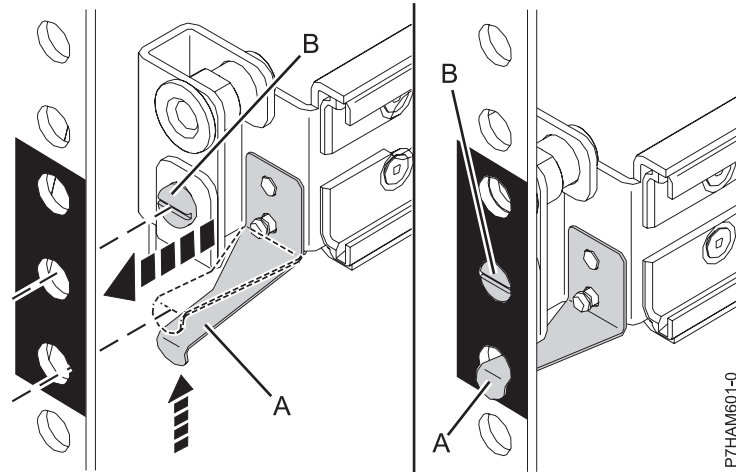

Figure 9. Mounting the rail to the front of the rack
- The tension clip (A) points toward the front of the rack and aligns with the bottom EIA hole that you marked previously, as shown in Figure 9 on page 11.
- c. Bend the tension clip (A) up and insert it into the bottom EIA hole that you marked previously, as shown in Figure 9. Ensure that the lip of the clip is brought fully through the hole and clasped against the bottom of the hole. Seat the alignment screw (B) in the middle EIA hole that you marked previously.